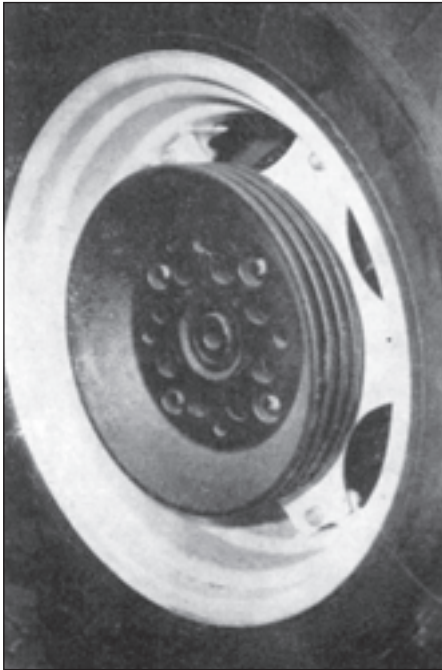

Fig. 106
- mounting variation II (Fig. 106)